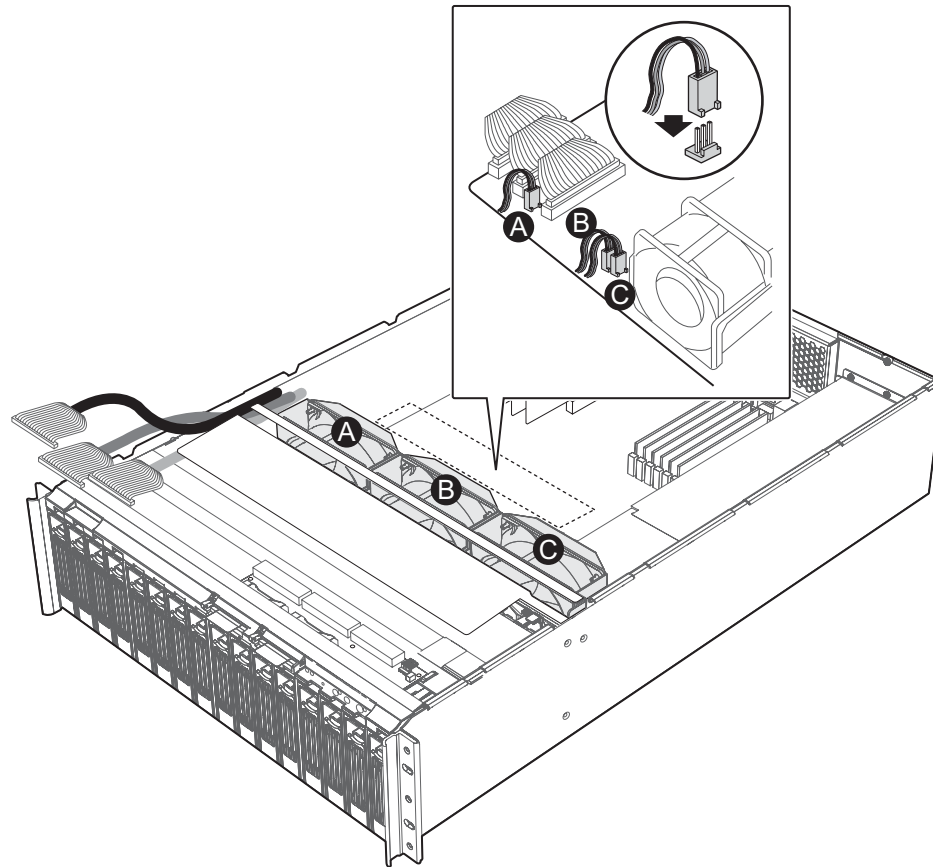

Figure 19. Re-attaching the System Fan Assembly Connectors
- A. Re-connect the wire connector for Fan 3 to the baseboard header labeled J2K1. See Figure 19.
- B. Re-connect the wire connector for Fan 4 to the baseboard header labeled J4K2. See Figure 19.
- C. Re-connect the wire connector for Fan 5 to the baseboard header labeled J4K4. See Figure 19.